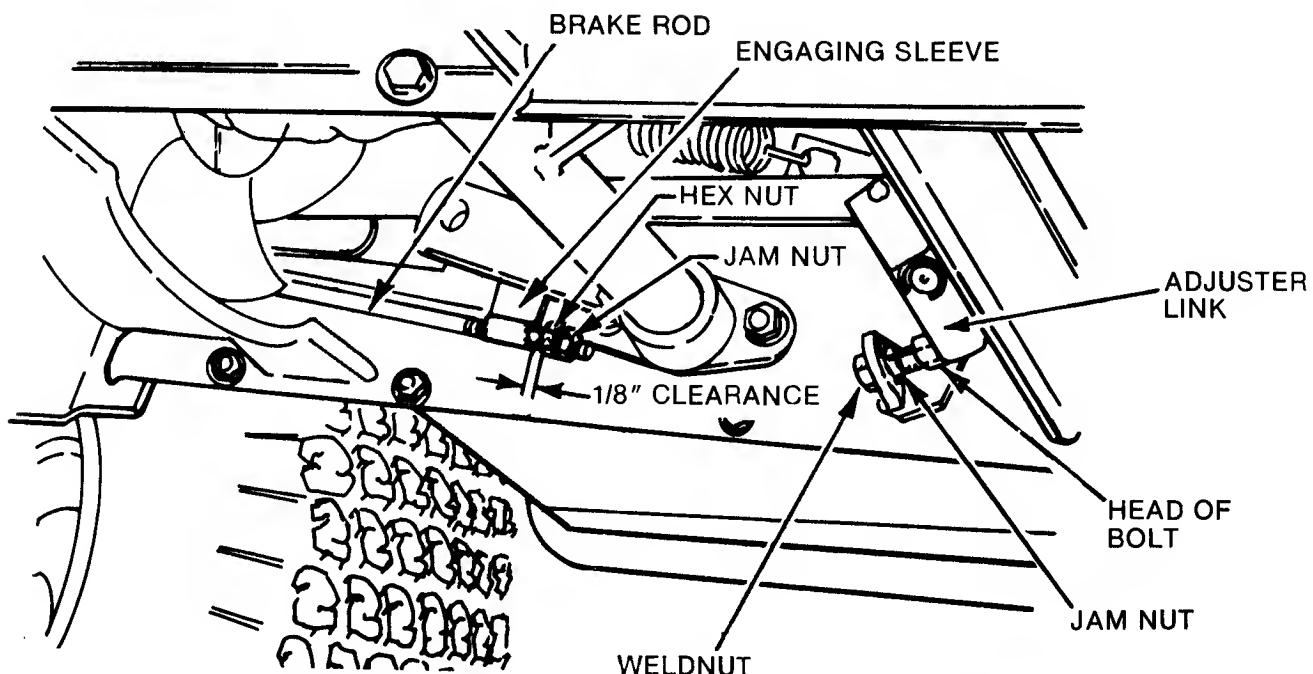

FIG. 3.9--BRAKE ENGAGING SLEEVE CLEARANCE ADJUSTMENT
6. After making the selector link adjustment, if the adjuster screw does not appear to hit squarely against the selector link, it will be necessary to replace the adjuster screw with a 5/16x1-1/4 hex head bolt (Figure 3.9). Loosen the jam nut on the adjuster screw and remove the screw. Install the hex head bolt and jam nut with the head of the bolt toward the selector link to increase the area of contact between the adjustment bolt and the selector link. Make adjustment as previously described and lock jam nut.
7. Place the parking brake brake lever into the first speed notch and tighten the nut on the end of the brake rod until there is 1/8 inch clearance between the nut on the rod and the brake engaging sleeve of the linkage (Figure 3.9). Install and lock a jam nut against the brake rod nut.